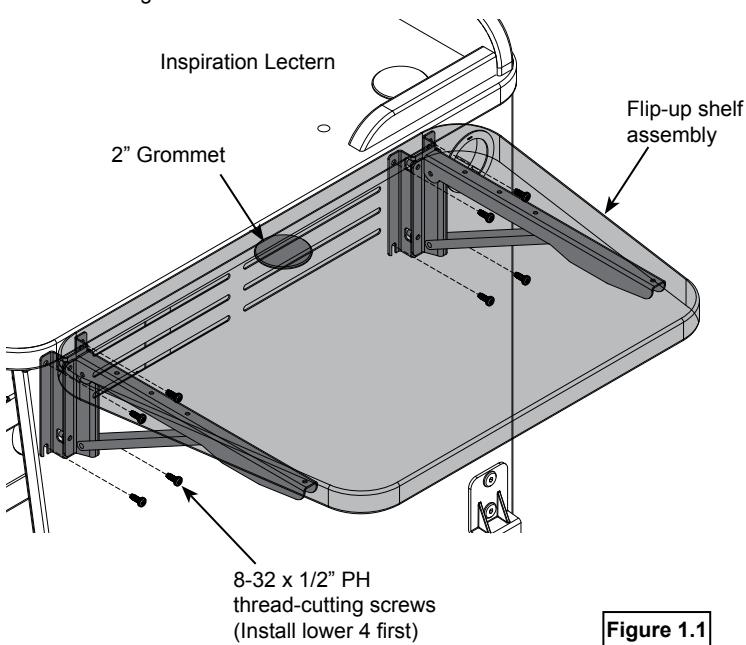

Figure 1.1
- Extend each shelf bracket to by depressing the release lever and lifting until it locks into the 90° position. **Figure 1.1**.
- Install the (4) lower 8-32 x 1/2" PH thread-cutting screws into the side panel leaving about 1/4" of threads exposed.
- Set the shelf assembly onto the (4) lower screws using the notched brackets.
- Secure the shelf assembly by installing the (4) upper 8-32 x 1/2" PH thread-cutting screws.